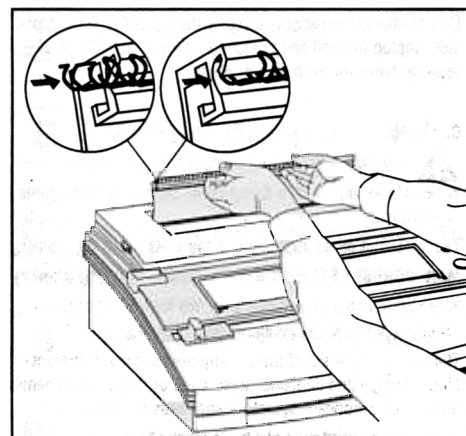

Figure 3
2. Place the large loops of the wire element into the Wire Holder as shown in figure 3. Be sure it is firmly secured with the small loops facing toward you.